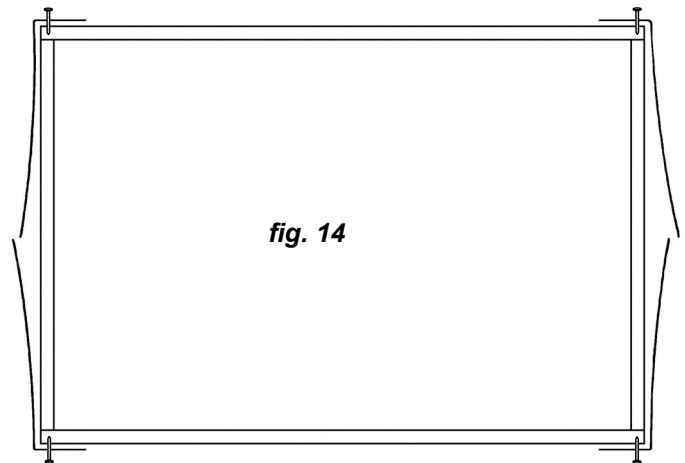

fig. 14
- You should now have your cladding attached as per (fig.14)**